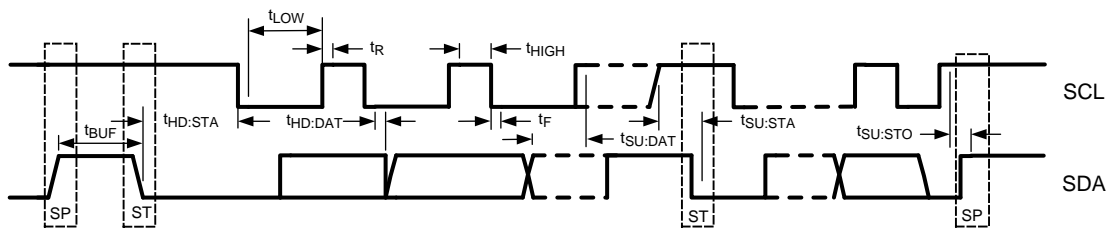

Figure 4. SMBus Timing Diagram
Serial Bus Interface Characteristics(6) See Figure 4.